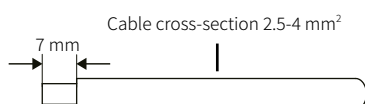

Fig. 17. Wire end stripping.
- b. Strip 7 mm. of the insulation sleeve of the DC cable, as shown in Fig. 17: